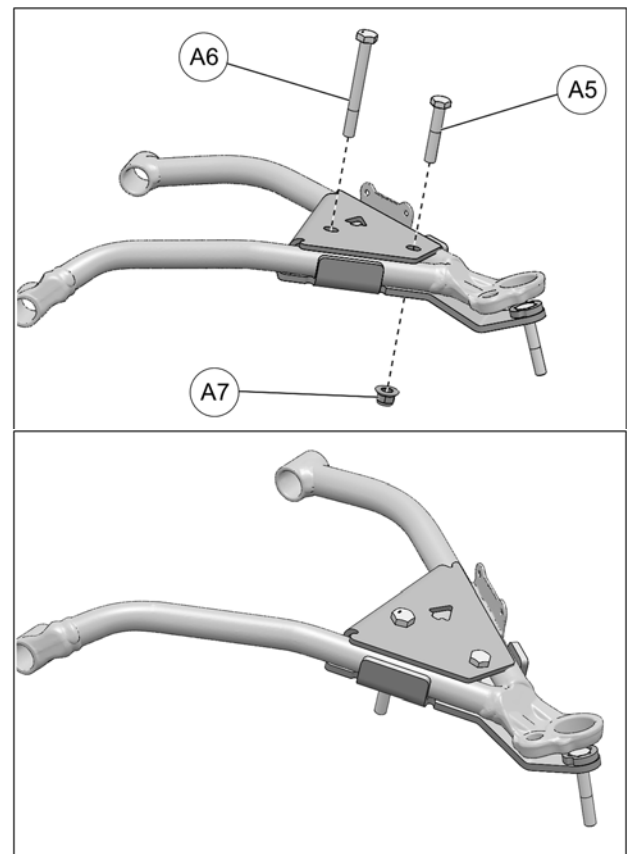

Fig. 16
6. Insert M10x55mm bolt (A5) and M10x95mm bolt (A6) from the top. Secure top and bottom parts together with nut (A7) threaded on M10x55mm bolt. Tighten nut to 50 N•m [37 lb•ft] of torque. See Fig. 16